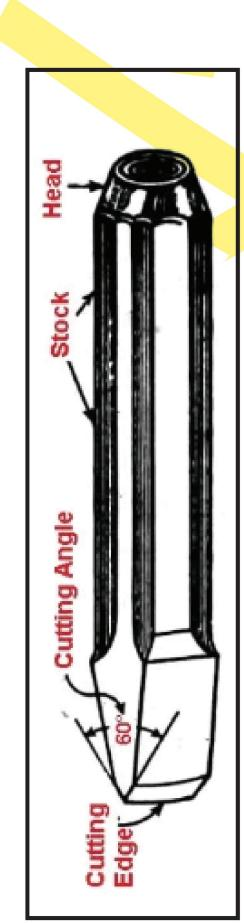

Figure 2.23 Chisel
2.2.4.5 Chisels: Chisel is primarily used to cut different profiles in metal pieces known as chipping or chiseling operation; they generally range from flat, round or any angular section. It is most used in chipping off the undesirable material from the work pieces. Chipping is generally performed with the help of cutting edge of chisels while striking them at back end known as the head with help of a hammer. The chisel cuts are mostly rough. Therefore, it needs filing after performing chipping with chisels. Chisels are used both on hot and cold metals. Different parts of chisel are classified as head, body, forging angle, cutting edge, and cutting angle as shown in figure 2.23.